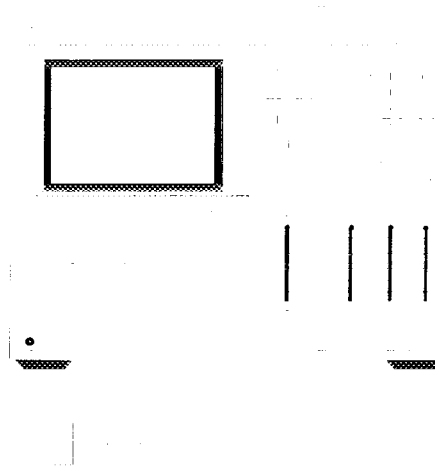

Figure 1-18. Operation Check Connections
- 4 Connect the equipment as shown in Figure 1-18.